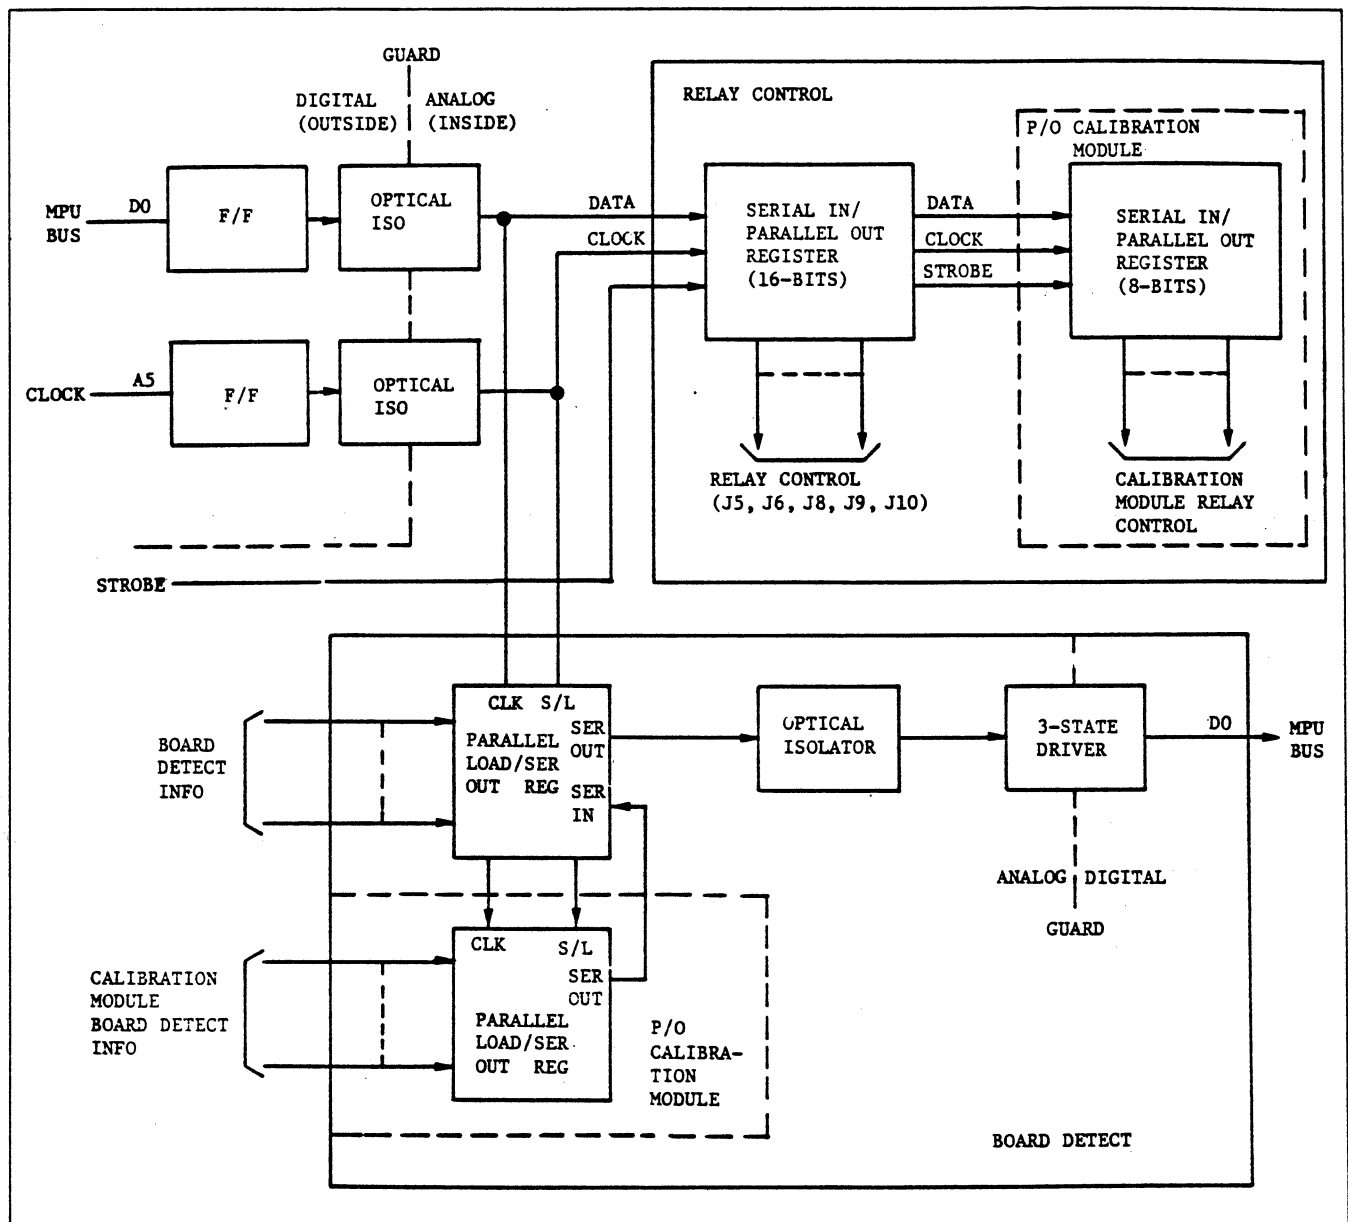

Figure 5.14 - Relay Control and Board Detect
5.3.5.2.3 *Relay Control Circuitry.* The relay control circuitry (Figure 5.14) consists of two flip-flops (U6), two opto-isolators, two serial to parallel shift registers (U4 and U9) and twelve relay drivers (U5 and U6). Control bits from the microprocessor are clocked through U6 and the opto-isolators and into the shift registers. The shift register outputs are buffered by the relay drivers.
5.3.5.2.4 *Board Detection Logic.* The board detection logic (Figure 5.14) consists of two parallel to serial shift registers (U2 on the Motherboard and U1 in the Cal Module) and an opto-isolator. After the relay control bits are loaded into U4 and U9, the clock and data lines from the micro-